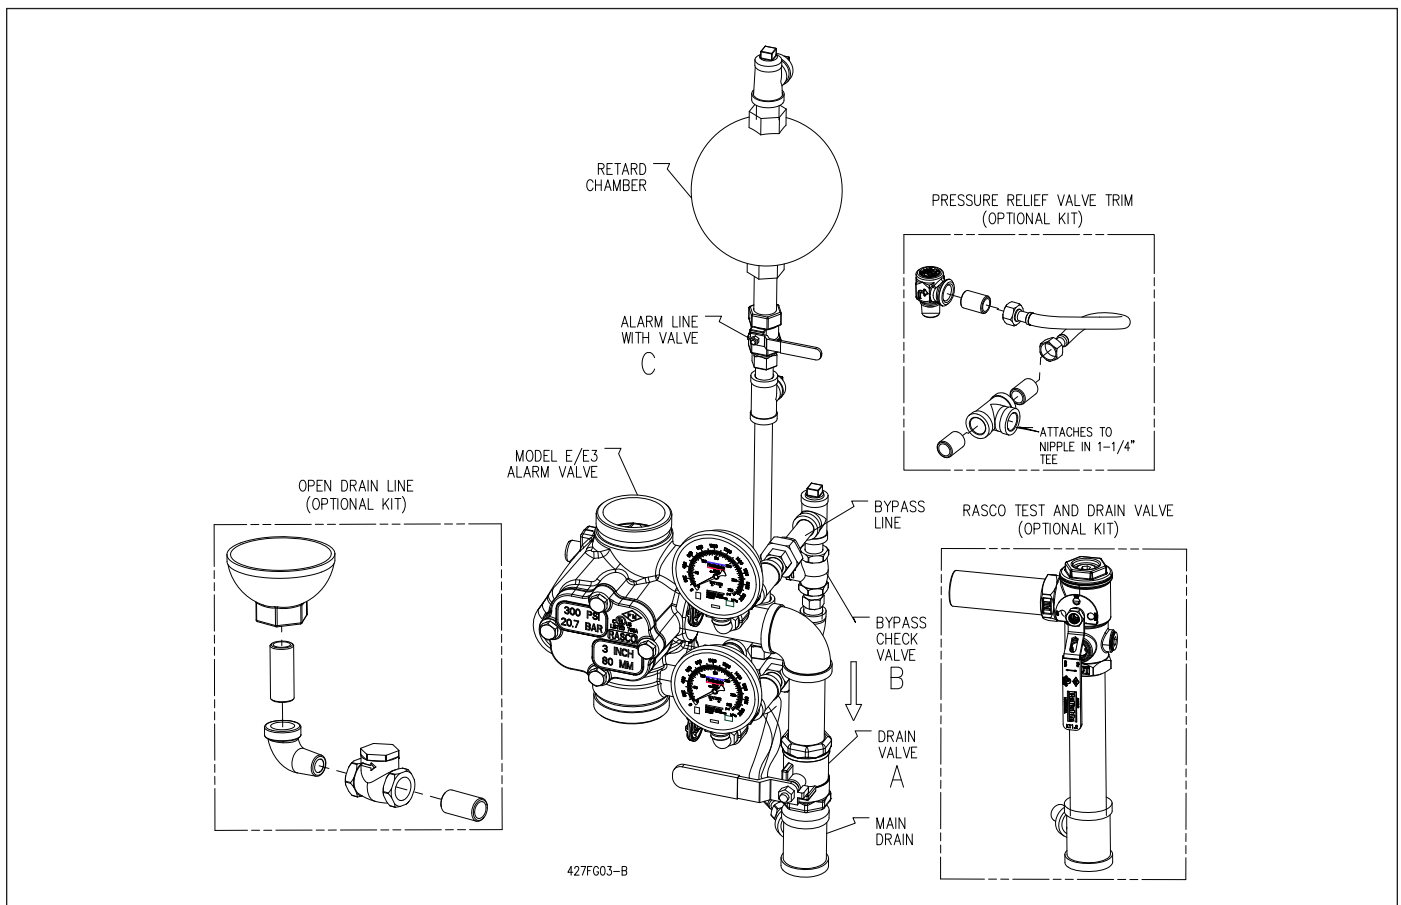

Fig. 3 - Vertical Trim
- a. The By-Pass connection with Check Valve (Figure 3 & 4) allows pressure surges from the supply to bypass the Alarm Valve Clapper. An excess system pressure is thus created which steadies the Clapper. Should a heavy surge unseat the Clapper and permit water to flow into the alarm line, the Retard Chamber then comes into action.
The E3 trim sets for the Reliable Model E and Model E3 Alarm Valve (Figs. 3 & 4) are arranged for rapid, easy and compact attachment, and serve as connection points to Reliable alarm and other devices. They also act as a means for testing system operation. The Model E and E3 Alarm Valves are available with separate trim configurations for either vertical or horizontal installation and the following options:
- Variable Pressure with Open Retard Chamber Drain— Retard chamber is required. Optional Drain Line Kit required (see Figs. 3 & 4). This trim set is used where water supply pressures vary. An open drip cup is provided to drain the retard chamber and the mechanical sprinkler alarm line. This drain connection is piped directly into the 1¼" (32 mm) main drain line.
Note: A combination test and drain valve segment is optional, to be purchased separately, as a replacement to the Drain valve (see optional Kit in Figs. 3 & 4).
- Pressure Relief Trim Kit — Required with a wet systems to be installed in accordance with the 2010 edition (and newer) of NFPA 13. For convenience, an optional pressure relief valve kit (illustrated in Figs. 3 and 4) is available. **Note:** Pressure relief trim is not intended for use in relieving water hammer or fire pump surges.